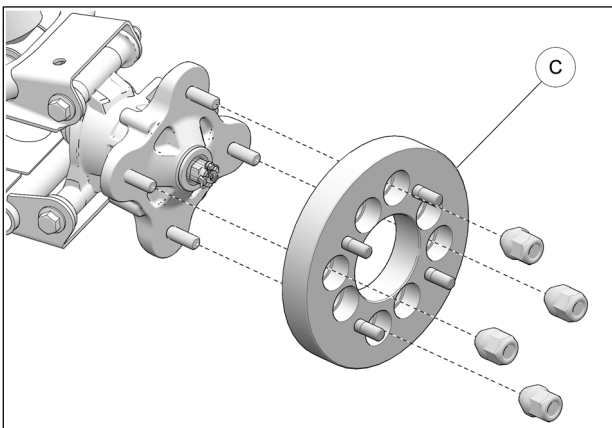
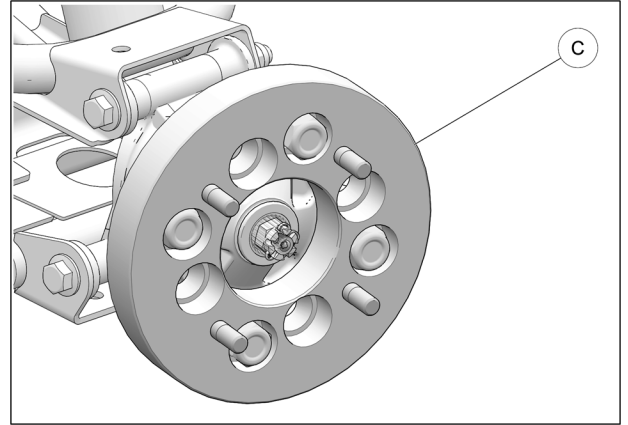

Fig. 7
Fig. 8
8. Install the 1-in (25mm) thick spacer (**C**) over the rear hub. Use the vehicle's own lug nuts. See Fig. 7 and Fig. 8